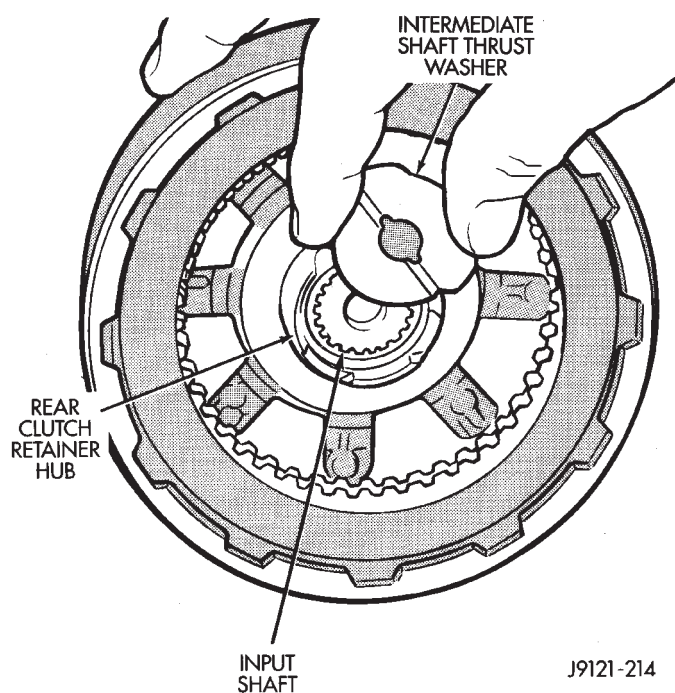

Fig. 157 Installing Intermediate Shaft Thrust Washer
(22) Coat intermediate shaft thrust washer with petroleum jelly. Then install washer in rear clutch hub (Fig. 157). Use enough petroleum jelly to hold washer in place. **Be sure grooved side of washer faces rearward (toward output shaft) as shown. Also note that washer only fits one way in clutch hub.** Note thickness of this washer. It is a select fit part and is used to control transmission end play.